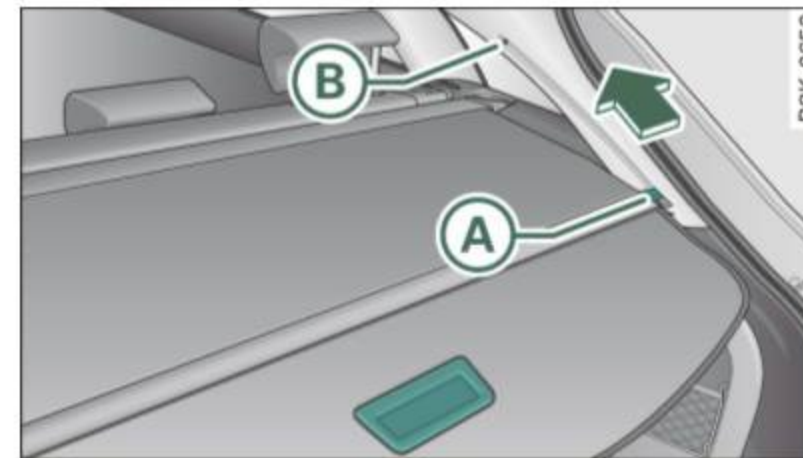

Fig. 80 Open luggage compartment lid with attached cover in position A
The luggage compartment cover can be attached in two positions: Convenience position **(B)** or position **(A)** ⇒ *page 79*, fig. 80. In position **(B)** the cover does not need to be removed to unload the luggage compartment.
- Insert the ends of the crossbrace from below into the openings on the left and right ⇒ *page 79*, fig. 80 **(A)** in the trim panels.